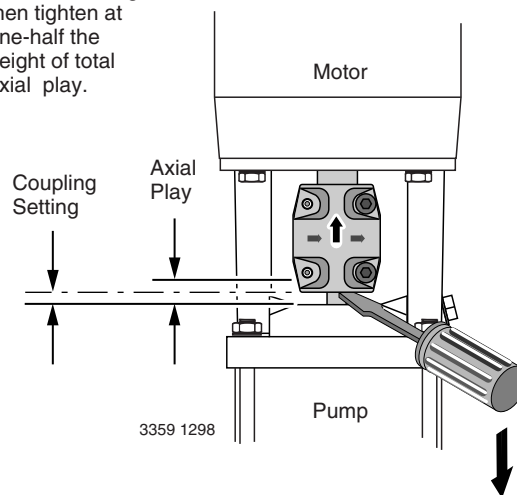

FIGURE 10B - Vertically (axial) Centering the Coupling
16. Insert a screw driver under the coupling (See Figure 10B).